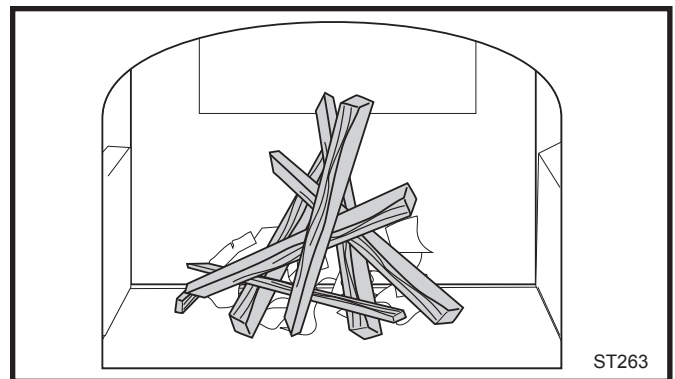

Fig. 33 Start the fire with newspaper and dry kindling.
2. Place several sheets of crumpled newspaper in the stove. Place six or eight pieces of dry kindling split to a finger-width size on the paper. On the kindling, lay two or three larger sticks of split dry wood approximately 1-2” (25-51 mm) in diameter. (Fig. 33)